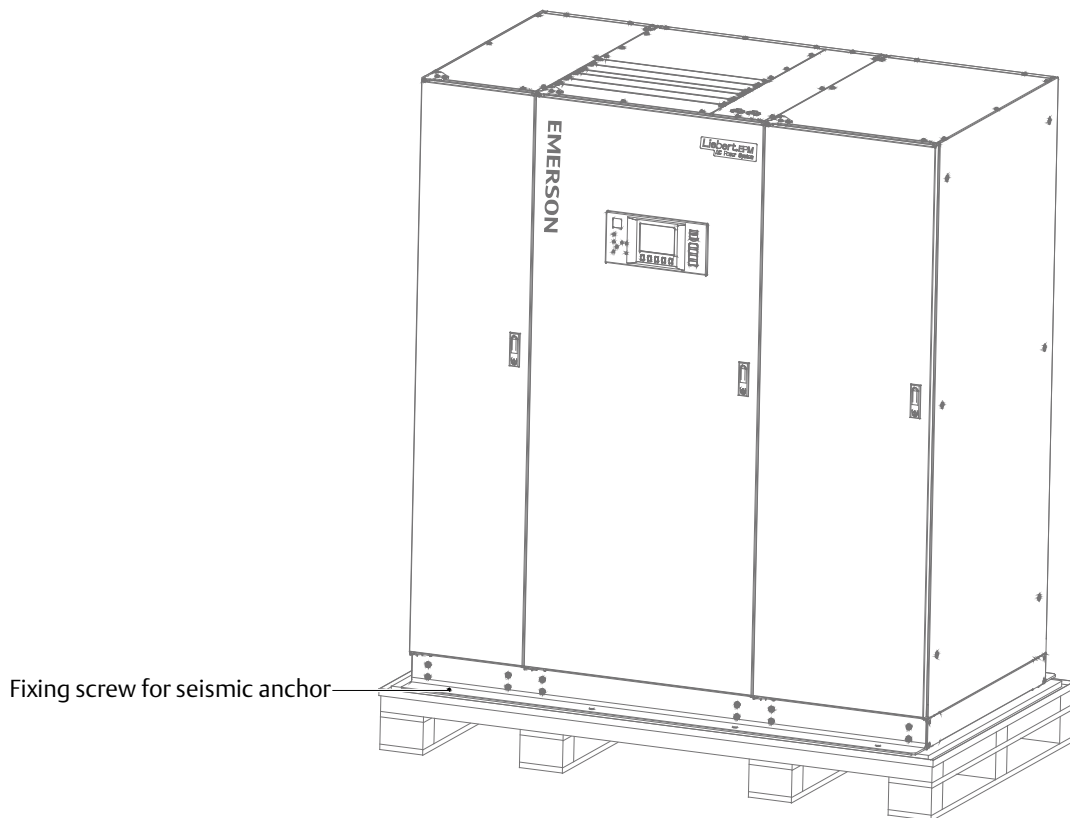

Figure 2-5 Removing seismic anchors
4. If the cabinet is equipped with the seismic anchors, you should remove them (8 pieces at front and rear) according to Figure 2-5, then use the forklift to move the cabinet to its installation position.